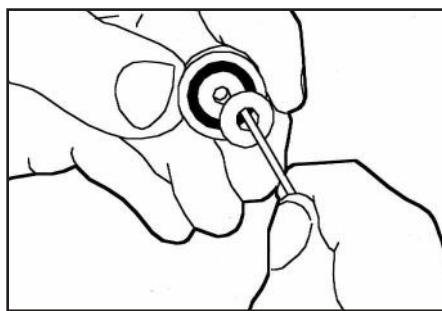

Figure 20
11. PO3-6S: Put 7/64" Allen wrench in the holes of the poppet O-ring retainers and pry them off. (Fig.20)
17. PO4-6S/8S: Put a 7/64" Allen wrench in the holes of the poppet O-ring retainers and pry them off.(Fig.20)